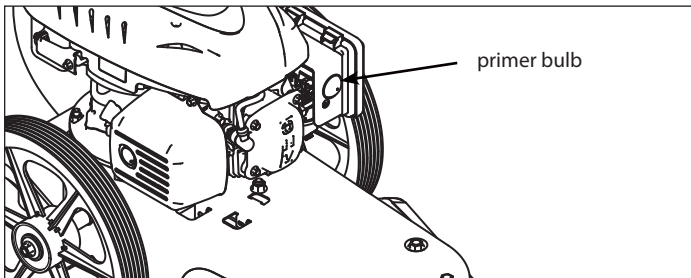

FIGURE 7: Primer Bulb
1. Push the primer bulb five times. Wait approximately two seconds between each push. **SEE FIGURE 7**
3. To start a cold engine, push the primer bulb five times. Wait two seconds between each push of the primer bulb. **SEE FIGURE 7**